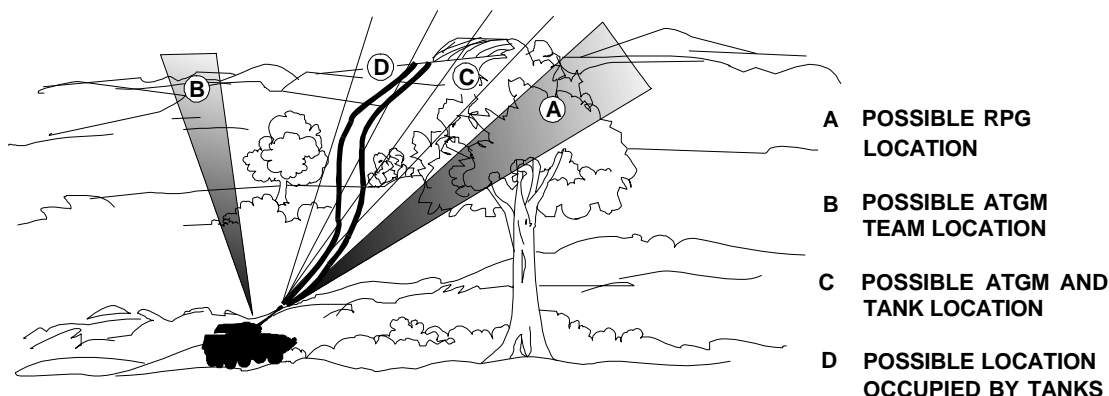

Figure 2-4. Detailed Search Technique.
(3) Detailed Search. If no targets are found using the rapid or slow scan techniques and time permits, crews should use the optics (day and night) to make a careful, deliberate search of specific areas in their assigned area. (See fig. 2-4.) This method is also used to search, in detail, small areas or locations with likely or suspected avenues of approach. Concentrate on one specific area or location and study that area intensely. Look for direct or indirect target signatures in a